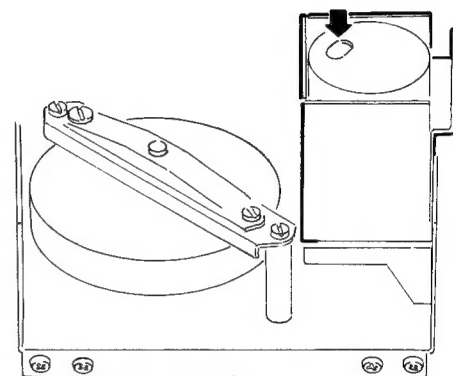

Fig. 8
- b) In the PLAY mode, adjust the speed by turning the screw on the rear of the drive motor (Fig. 8). The protective covering must be penetrated with the adjusting screwdriver, and the printed circuit board VM 6/A behind the motor can be removed to ease access to the screw.